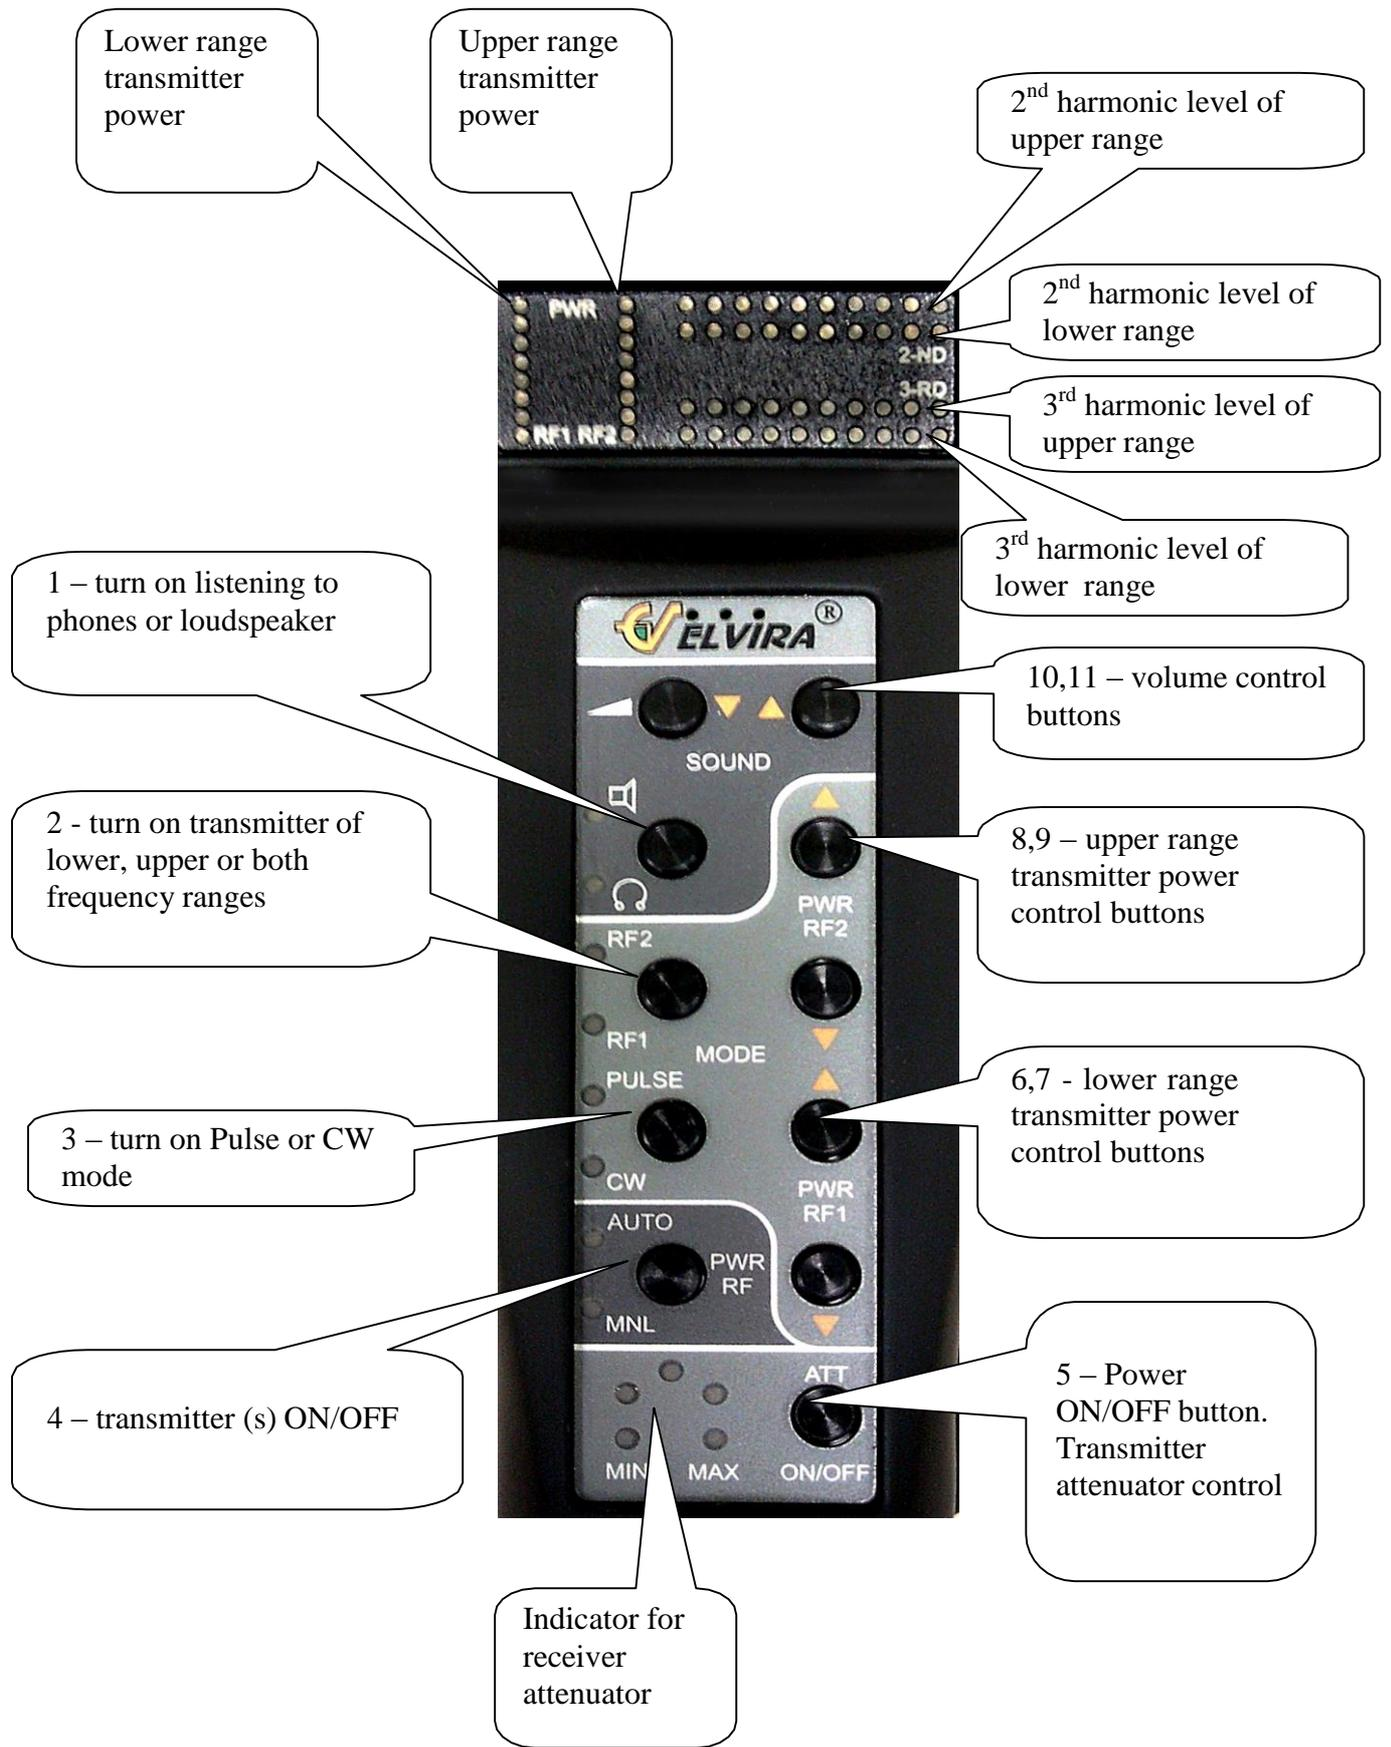

Fig.3
- Indication of the receiver power level and levels of the 2nd and 3rd harmonics of the signals received (Fig. 3).
4.2. The control panel is used to control operation of NLJD. It is placed on the arm into which a battery is embedded. Control board, buttons for operation modes control and display LEDs are placed in the housing. Control panel and its buttons functions are given in Fig.3.
**6.2.** Turn NLJD on by button 5 (Fig.3) on the control panel. Four indicators: RF1, RF2, PULSE and a loudspeaker LED will light up. One yellow LED should light on each scale of the probing signal power indicator. Here the probing signal transmitters are off. The 2nd and 3rd harmonics indicators should not light. If button 5 is pressed again and kept within 5 seconds, NLJD is off.
**6.4.** Before turning on probing signal transmitters RF1 and RF2 one can select one of the following operation modes: both transmitters are on or only one of them. For this purpose press button 2 (Fig.3) consequently. RF1, RF2 or both LEDs light at each pressing. An operator can control power of RF1 and RF2 probing signals pressing the corresponding buttons ▲ ▼ (more, less) (buttons 8,9 and 6,7 (Fig.3)). Here AUTO indicator goes out, and MNL indicator lights up.
**6.7.** If a response signal is to be listened via phones press the corresponding button 2 (Fig.3) and turn a receiving device on (cl.4.4).